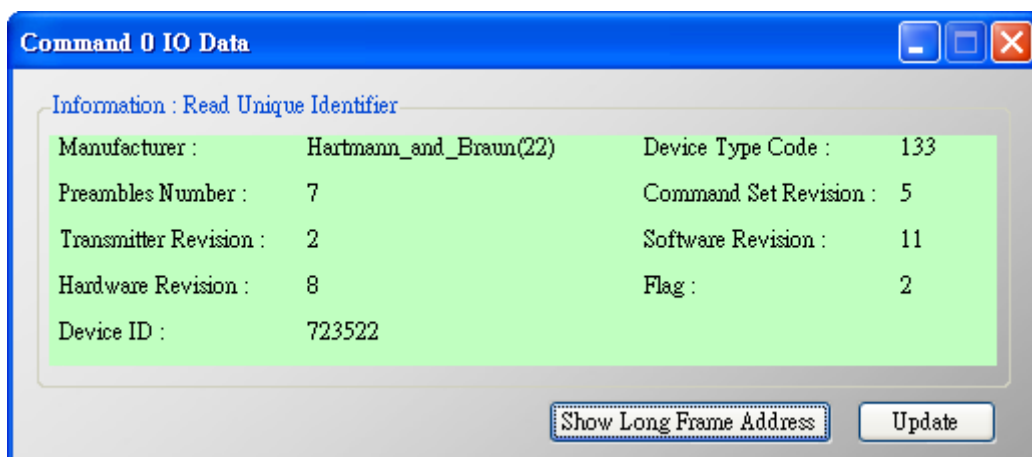

Figure 2-3 The I/O Data screen of the “Default CMD(0)” => OK
(3) The I/O Data of the “Default CMD(0)” is **OK** like Figure 2-3.